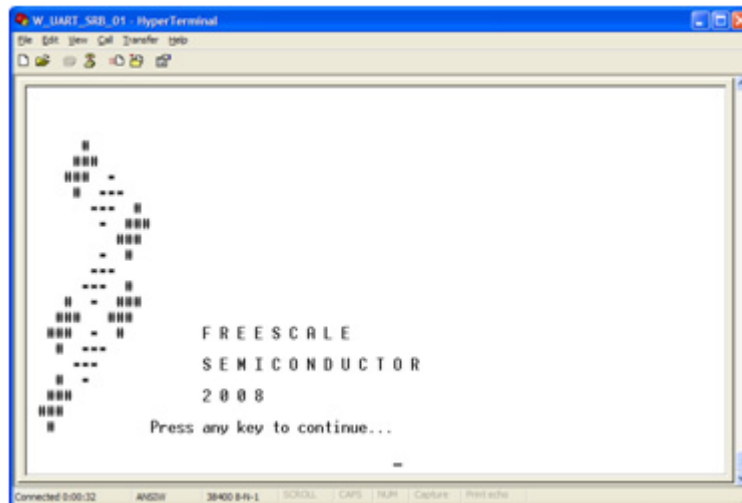

Figure 8-6. Repeater Start Window
- Start the serial communication software and reset the board. The start window appears as shown in Figure 8-6.